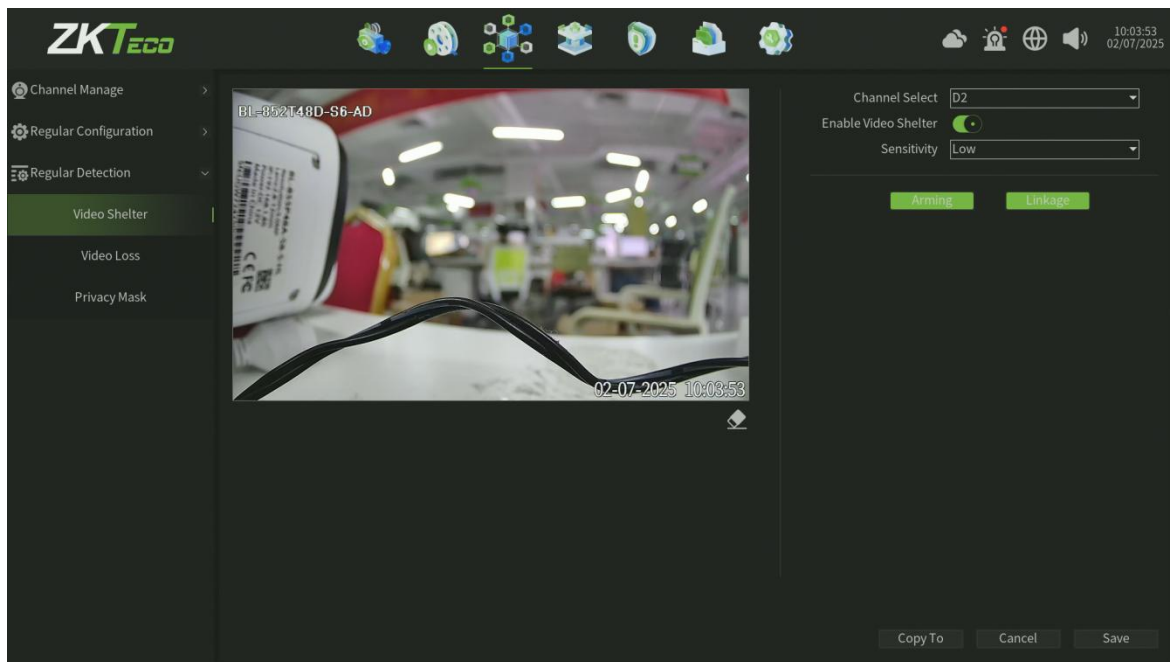

Figure6.12 Video Tampering
1. Enter Video Mask Alarm interface of channel parameter and choose a channel you want to setup Video Mask Alarm, as shown in figure 6.12.